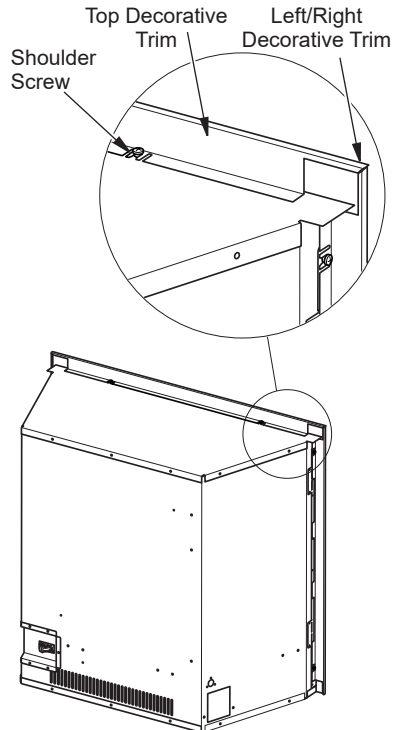

Figure 19 - Installing Decorative Trim
2. Starting with the left and right side trim pieces, snap the screw clips over the shoulder screws provided on the fireplace. Snap the top trim on last (see Figure 19).